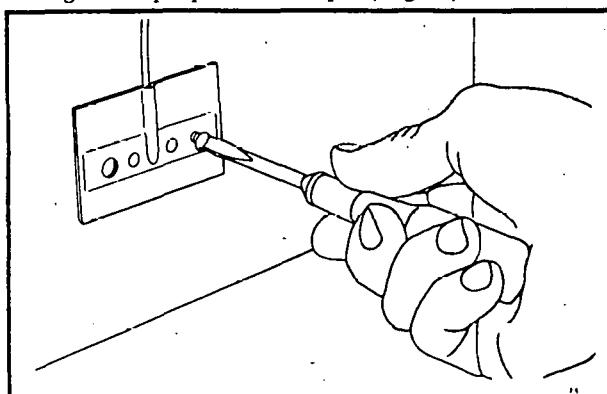

FIG. 6-FASTENING HOLDER TO DUCT WALL.
6. Fasten bulb holder to duct wall with screws furnished, as shown in Fig. 6.